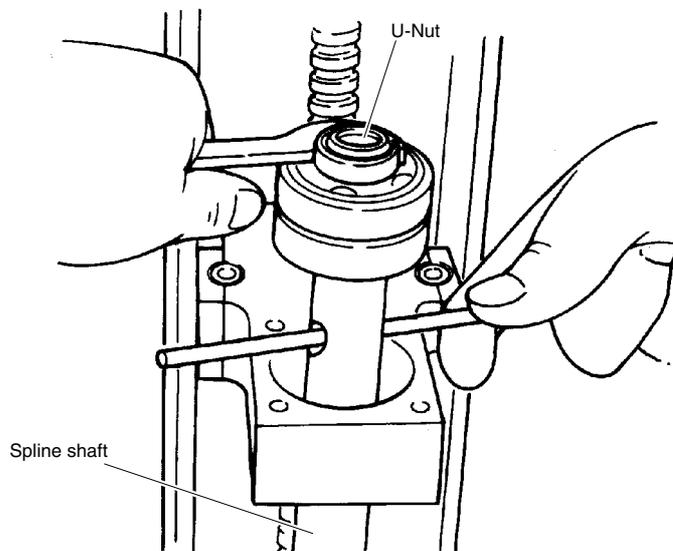

Fig. 5-55
- 8) While holding a steel rod or similar tool through the 10mm diameter hole as shown, use the hook spanner to remove the U-nut on the spline shaft and then remove the bearing. (See Fig. 5-55.)
- 23) Insert the spline shaft into the holder, fit the bearing onto the spline and tighten the U-nut to secure the bearing. (Utilize the  $\phi 10$  through-hole when tightening the U-nut like you did to loosen it.) (See Fig. 5-55.)